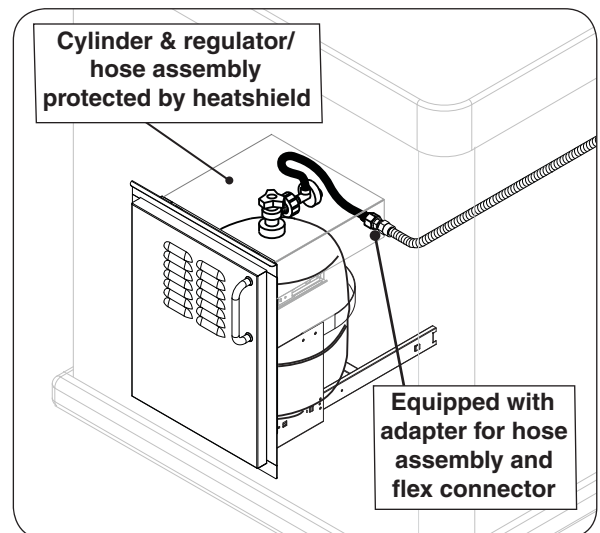

Fig. 12-3 Optional AOG door w/tank tray
- **AOG offers a propane cylinder door with tank tray to meet the cylinder install requirements. See Fig. 12-3.**